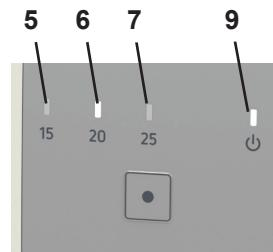

Fig. 4
- ◆ The green operating indicator (9, Fig. 4) flashes quickly.
- ◆ The yellow indicator for the defined threshold value lights up (5, 6, 7, Fig. 4).
- ◆ The green operating indicator (9, Fig. 4) lights up.
As long as the flow rate is higher than the defined threshold value, the corresponding indicator remains lit up (5, 6, 7, Fig. 4)